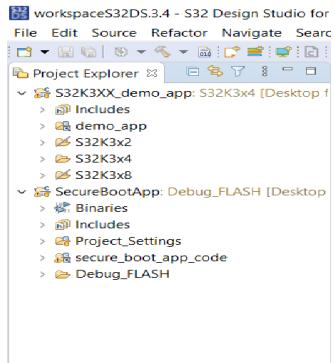

Figure 7. S32DS Project explorer
- Ensure all projects are imported as shown in Figure 7.